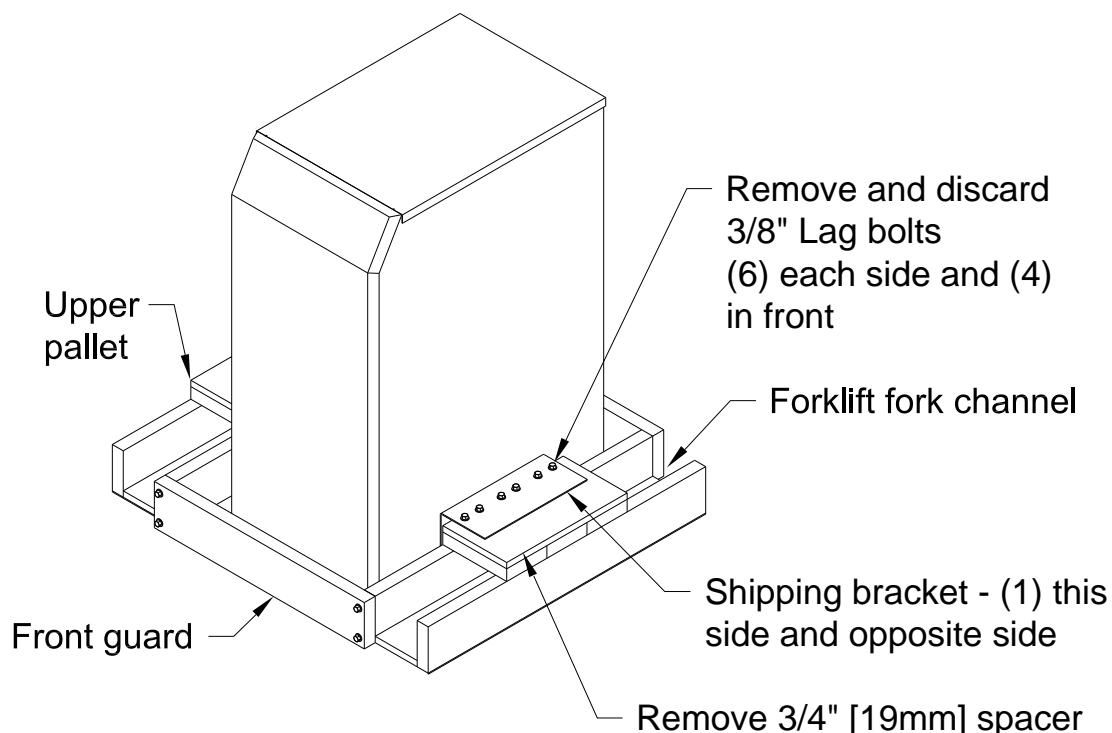

Figure 2 - Extended Run Time Battery Cabinet
2. With a forklift, lift the cabinet and upper pallet using the forklift channels (see figure 2) from the lower pallet by 1 to 2 inches. Slide the lower pallet completely away from the cabinet. Lower the upper pallet and cabinet to the floor.
3. Remove the (12) 3/8" lag bolts securing the shipping brackets to the pallet and the (4) 3/8" lag bolts securing the front guard board in place (see figure 2).
5. Ensure that the four (4) leveling feet are raised so that they will not touch the floor when the cabinet is placed on the floor.